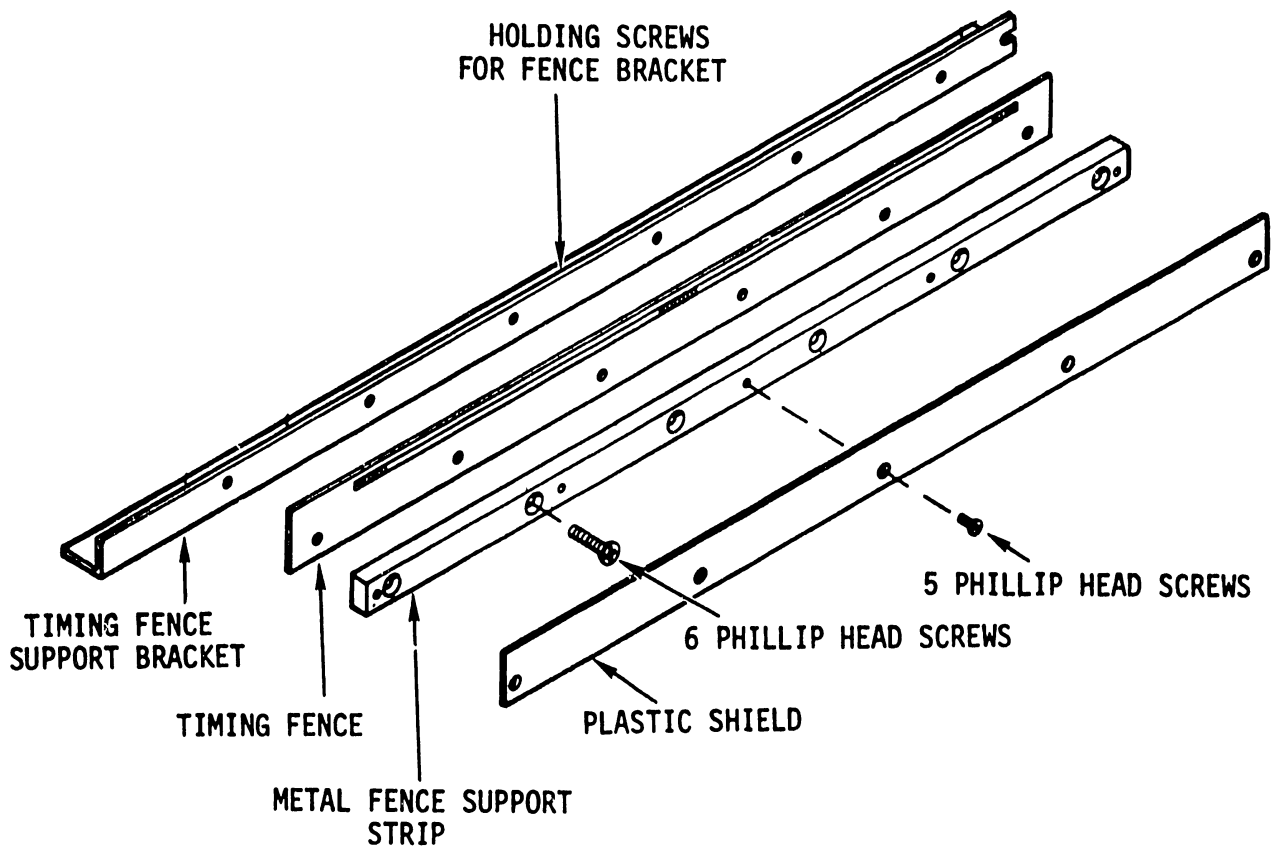

FIGURE 5-13 TIMING FENCE ADJUSTMENTS (PARALLELISM & HEIGHT)
- 1) Loosen the holding screws of the fence bracket so they still hold the fence well enough so that tapping it with a screwdriver to move it is required. (See Figure 5-13.)
- 2) Remove the five holding screws from the fence and switch assembly and slide the assembly to the right to clear the photocoupler on the carriage. (Refer to Figure 5-13.)
- 1) Remove screws holding switch bracket. (Do this step first to prevent soldering iron from damaging the fence.) (Refer to Figure 5-13.)